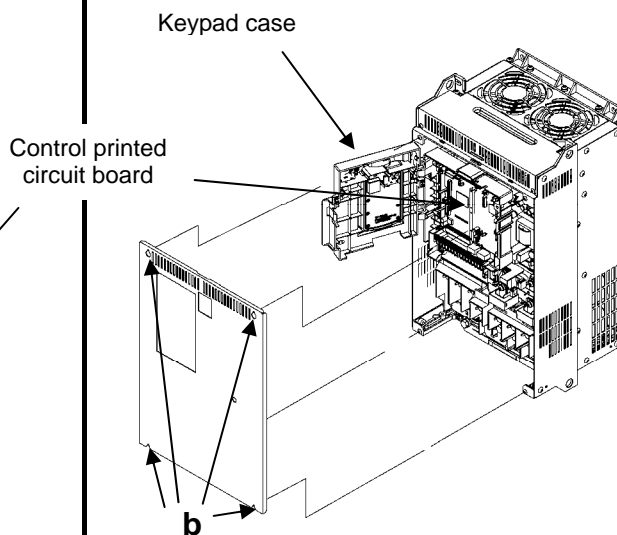

Figure 6.1.2 Removing the Front Cover
- (1) As shown in Figure 6.1.2, remove the mounting screws on the front cover at location (b) (the number of screws varies with the inverter's capacity) and remove the front cover.
- (2) Open the keypad case.